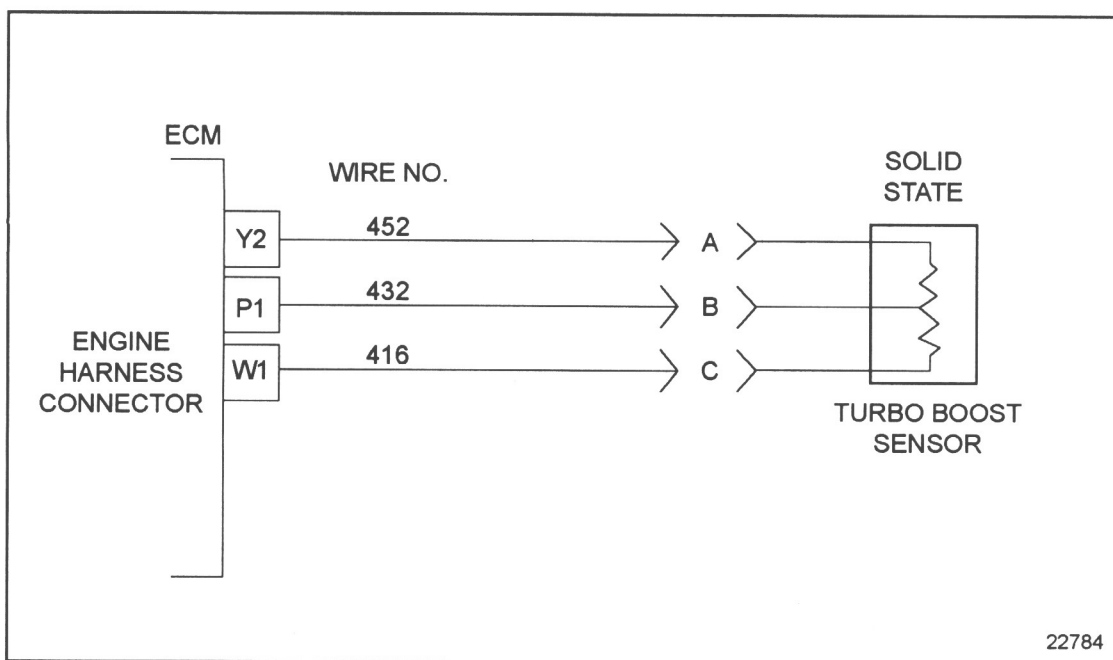

Figure 34-2 Turbo Boost Sensor Schematic
3. Install a jumper wire between sockets B and C of the TBS harness connector. See Figure 34-2.